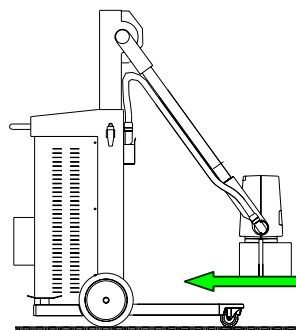

Figure 6
- Move downwards the arm by using the handles and by keeping in vertical position the monobloc-collimator group; when the parking position is reached (see Figure 6) rotate and engage the safety lock.